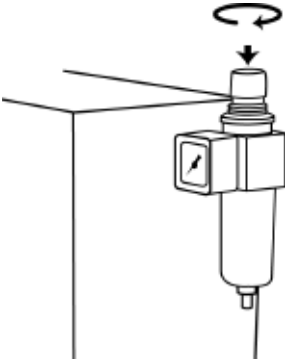

Figure 4
6. When the pressure on the air regulator gauge is set to 65 psi, lock the knob in position by firmly pushing down on it. (See Figure 4)